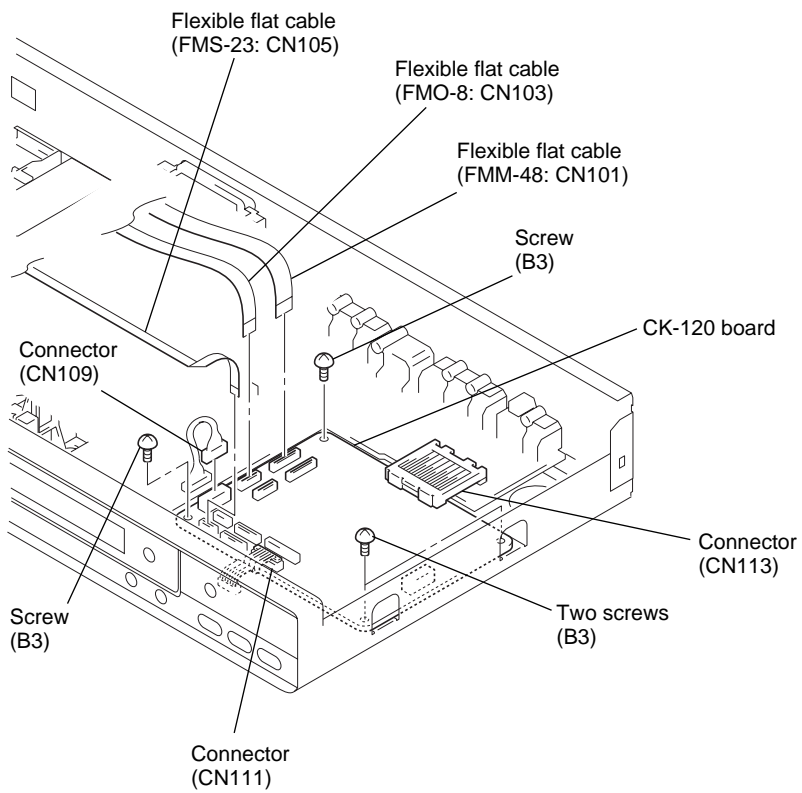

Fig. 4
- 4) Set the board in the place where the MB-108 board is removed, as shown in Fig. 4.